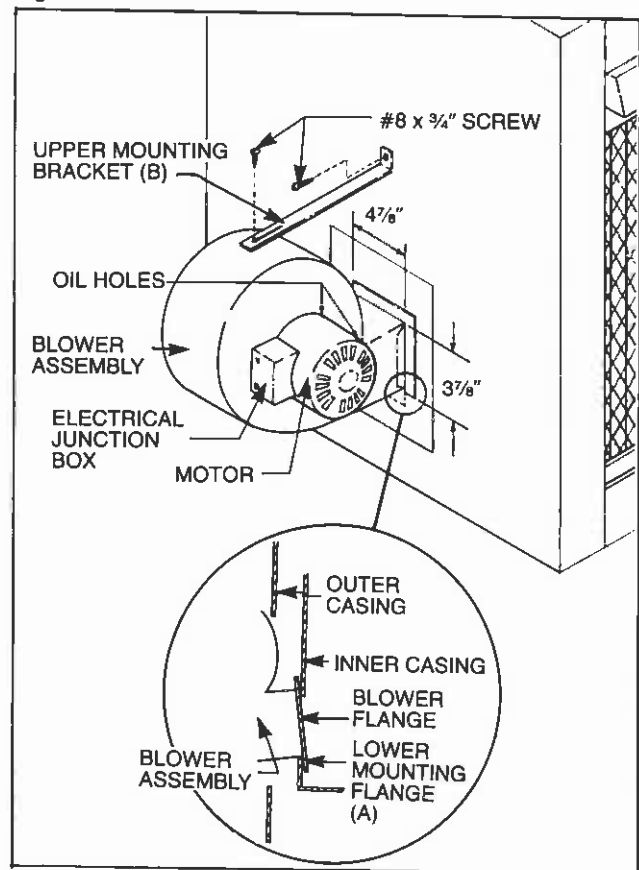

Fig. 2. Mounting blower assembly.
2. Holding Blower Assembly in the upright position, hook the lower mounting flange (A) into the Blower opening. Lift Blower Housing until Blower side and top flange are tight against inlet opening. (See Fig. 2.)
3. Position upper Mounting Bracket (B) on Blower Assembly and against Outer Casing as shown in Fig. 2. Using the two holes in Bracket (B) as guides, mark and drill two (2) 1/8" holes in the Blower Housing and Outer Casing. Secure upper Mounting Bracket with the two (2) #8 x 3/4" Metal Screws provided. When securing Mounting Bracket to Blower Housing, adjust Blower Assembly so that Blower Mounting Flange is tight against inlet opening. (See Fig. 2.)
The blower motor is equipped with bearing oil ports. They should be oiled before the start of each season. Place a couple of drops of S.A.E. 20 oil into each oil port (See Fig. 2.)